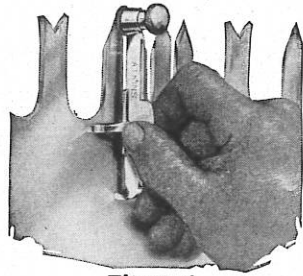

Figure 6
7. The amount of set necessary is determined by the kind of material to be cut. Perfect alignment is absolutely necessary. Therefore, always use the set gauge. The use of a set gauge is shown in Figure 6, Page 42.
after setting, should be gauged for accuracy, as shown in the cut illustrating the use of a set gauge (Fig. 6). We submit on Page 43 a number of cuts for your consideration which show the principal forms of saw teeth, both cutting teeth and rakers, for different kinds of timber and different requirements.